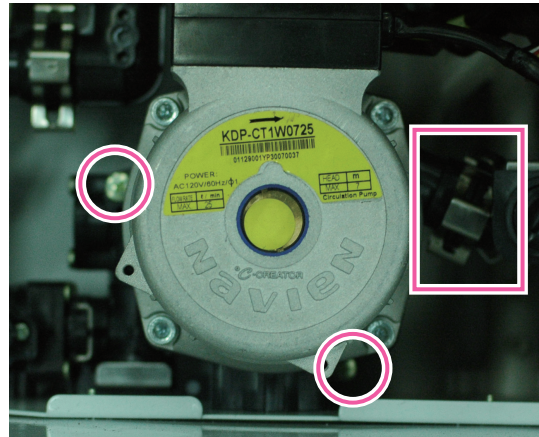

Figure 26
8. Remove the stainless steel clip and 2 screws from the pump as shown in Figure 26.